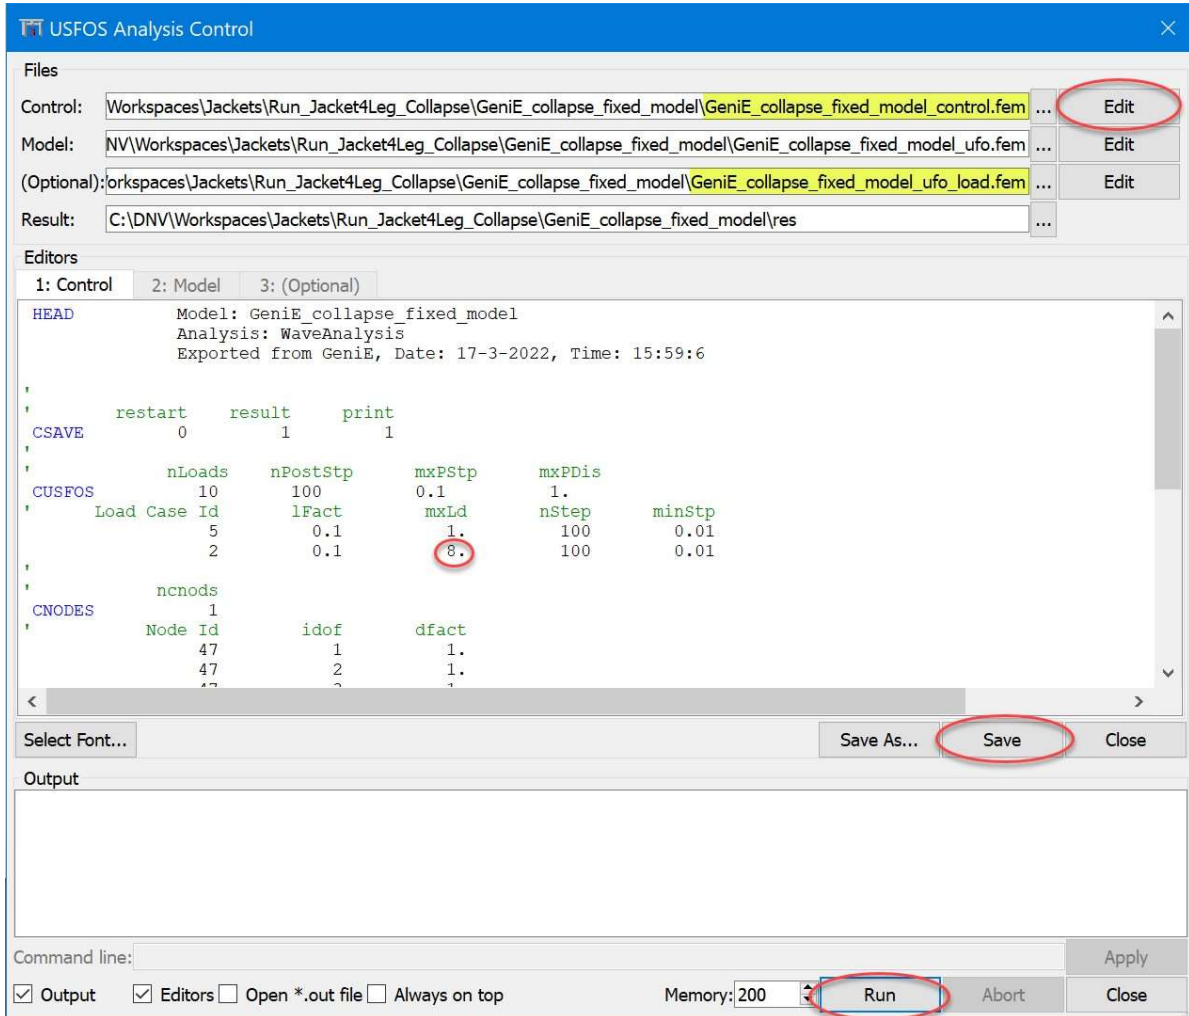

Figure 2-5 Select files and increase the wave load factor to force collapse
- Change mxLd on the CUSFOS command for the wave (load case id 2) to 8 as shown in **Figure 2-5**. This somewhat unrealistic factor for the wave load is set high to force collapse.